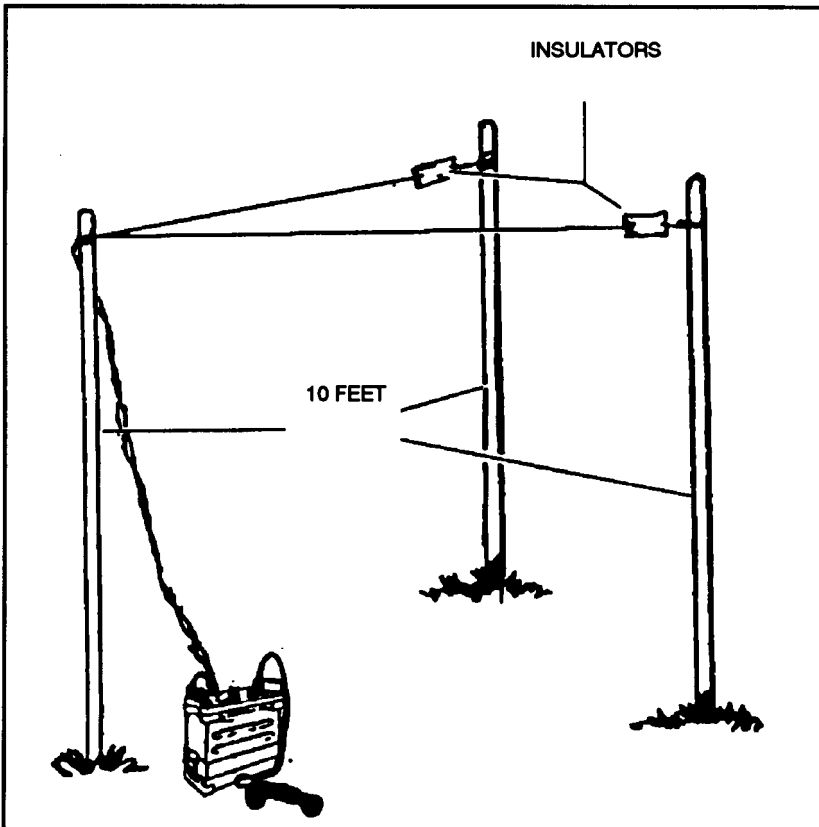

Figure 7-11. V antenna.
a. The V antenna (Figure 7-11) is another field-expedient directional antenna. It consists of two wires forming a V with the open area of the V pointing toward the desired direction of transmission or reception. To make construction easier, the legs should slope downward from the apex of the V; this is called a *sloping-V antenna* (Figure 7-12). The angle between the legs varies with the length of the legs to achieve maximum performance. (to determine the angle and the length of the legs, use the table in Table 7-1.)